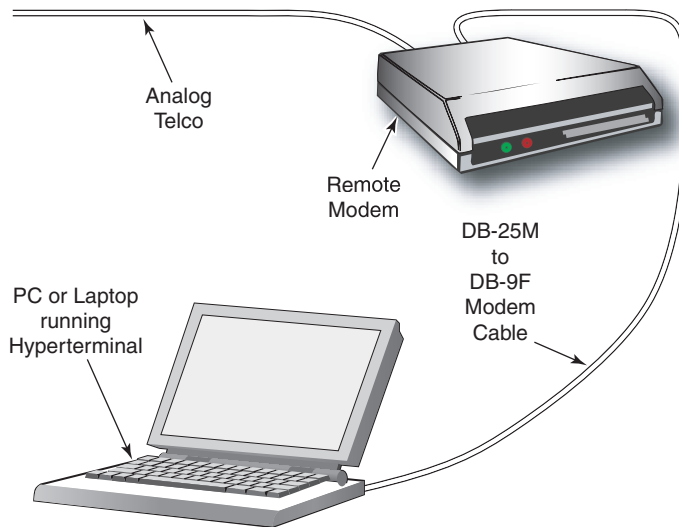

Figure 30 Remote modem setup
1. Connect the remote modem to the workstation, as shown in Figure 30.